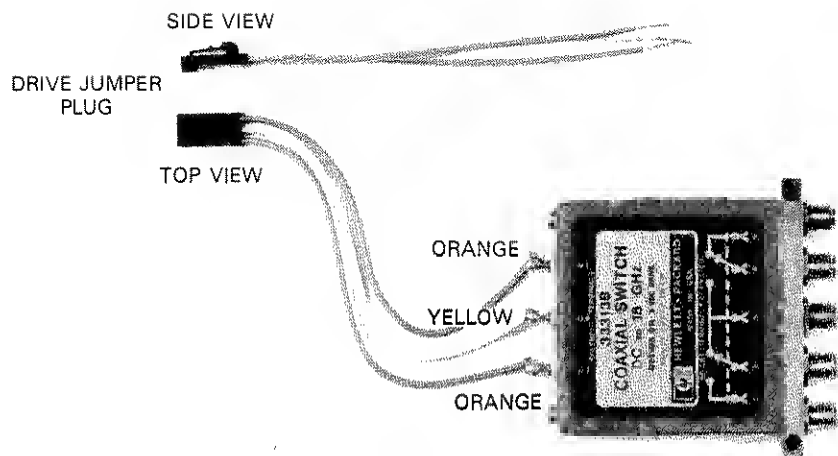

Figure 5. Drive Jumper Orientation.
1. Orient the drive jumpers W1 and W2 with the corresponding microwave switch as shown in Figure 5. This orientation will make the switch operation agree with the silkscreen on the module panel. Solder the drive jumpers to your microwave switches.
3. Plug the drive jumpers into the module connectors (do not install unused jumpers). The channel number is silkscreened on the module PC board next to the connector. The drive jumper plug is keyed to fit into the module connector one way only. After drive jumpers are installed, lay them flat against the PC board so they stay beneath the component-side shield when installed. See Figures 5 and 6.